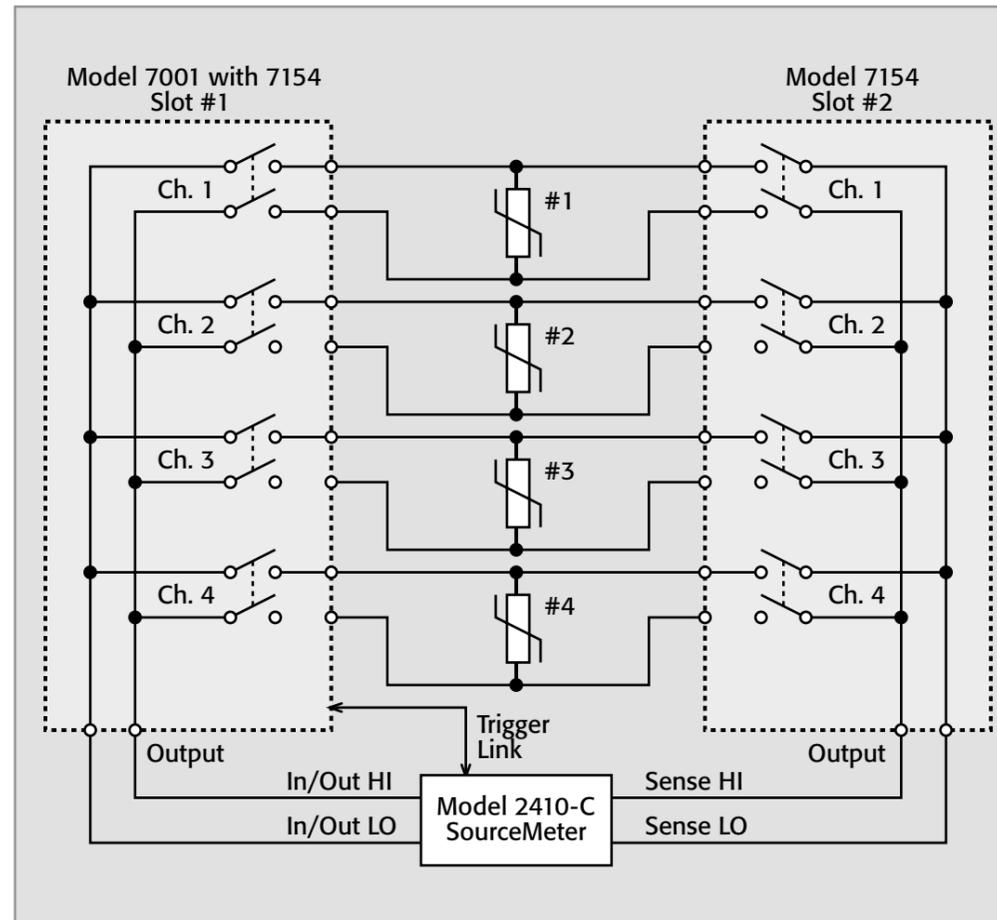

Figure 21. Switching multiple varistors
**Figure 21** shows an example of the preferred connection scheme when testing metal-oxide varistors. The Model 2410-C SourceMeter® instrument is ideal for testing MOVs because of its ability to source up to 1100V at 21mA. One Model 7154 High Voltage Card connects the source lines to the devices and another Model 7154 connects the sense lines. The two-pole relays minimize lead resistance and voltage drop in the switch. This is particularly important when measuring relatively small voltages (millivolts).